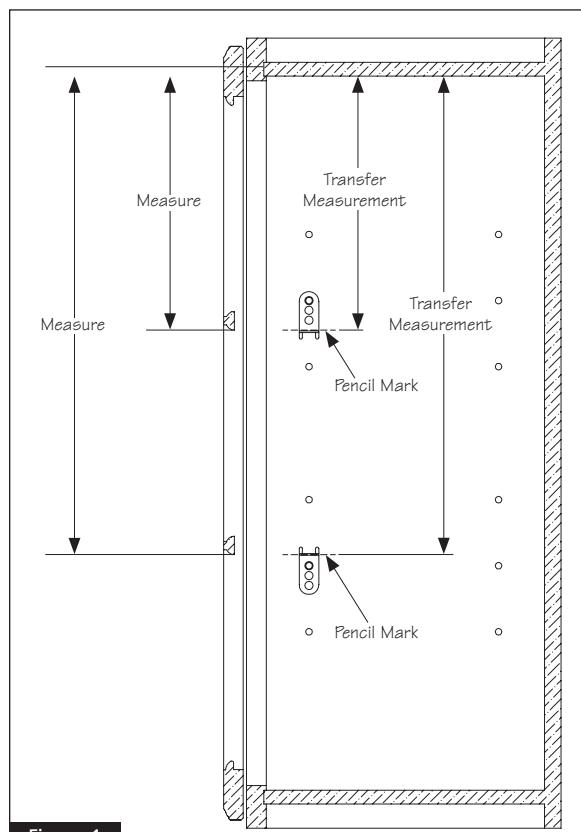

Figure 1
- 2 Measure down from the inside of the top of the cabinet to the bottom of the mullion door grids, as seen in Figure 1. Transfer the distance down from the inside of the top of the cabinet, in line with the shelf clip holes in the side panel, marking with a pencil, as seen in Figure 1.
- 4 If the pencil mark is either above or below a shelf clip hole, then an Adjustable Shelf Rest will be needed for that location. By holding the flat surface of an Adjustable Shelf Rest along that pencil mark, rotate and move the Adjustable Shelf Rest until one of the screw holes is close to a shelf clip hole in the Side Panel, as seen in Figure 1.
**NOTE:** The adjustable mullion shelf rests can be installed upside down in order to achieve your desired location as shown in the bottom of Figure 1.